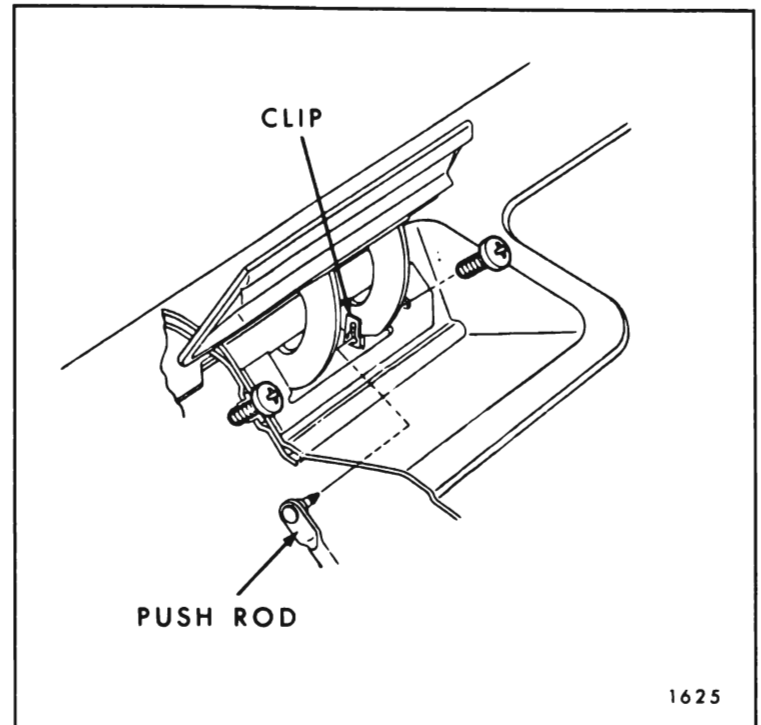

Fig. 9-41—Tail Gate Inside Handle Attachment
1. Raise inside handle and disengage remote push rod from spring clip. (See Fig. 9-41.)